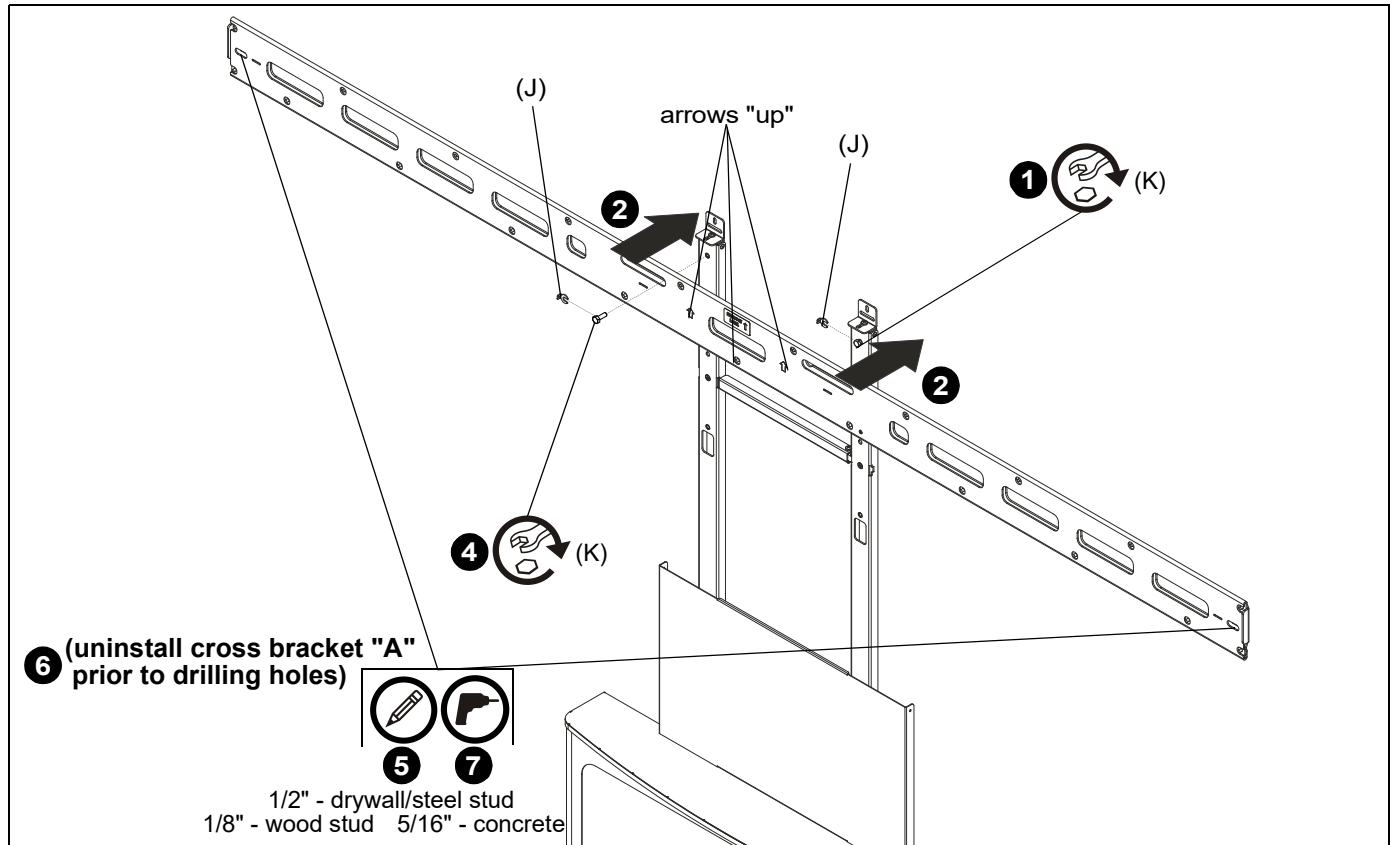
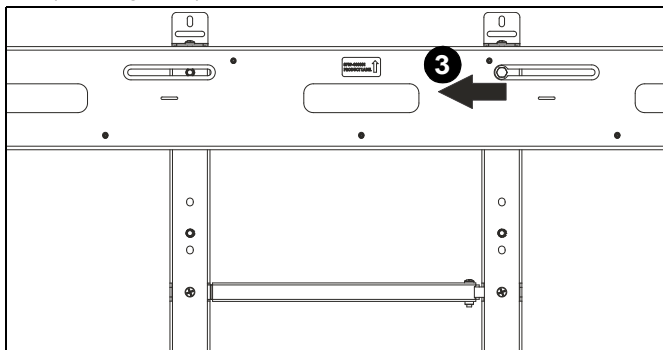

Figure 1
Figure 2
1. Loosely install one 5/16-18 x 3/4" hex head cap screw (K) with one slotted washer (J) into the right hole on AVSFSS upright. (See Figure 1)
2. Install AVA1101 cross bracket (A) onto loosely installed screw. (See Figure 1) and (See Figure 2)
**NOTE:** Make sure arrows are pointing "up" on cross bracket. (See Figure 1)
3. Slide cross bracket (A) over to left to mounting position. (See Figure 2)
4. Use one 5/16-18 x 3/4" hex head cap screw (K) with one slotted washer (J) to secure cross bracket (A) to the left AVSFSS upright. Do not tighten. (See Figure 1)
5. Mark holes on wall at the locations of the outermost slots of the cross bracket (A). (See Figure 1)
13. Reinstall cross bracket (A) to uprights following Steps 1-4. (See Figure 1) Tighten 5/16-18 x 3/4" hex head cap screws (K) with slotted washers (J).